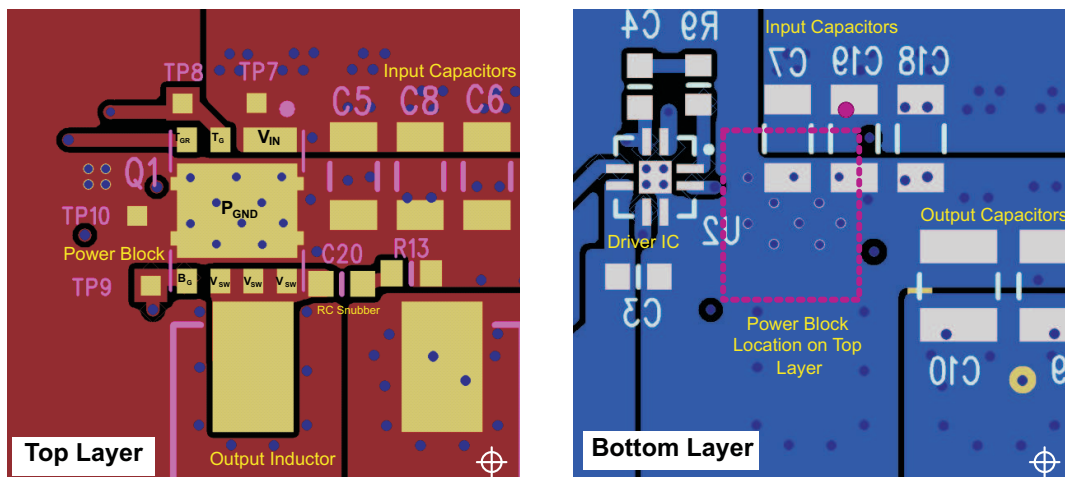

Figure 34. Recommended PCB Layout (Top Down View)
- The placement of the input capacitors relative to the power block's VIN and PGND pins should have the highest priority during the component placement routine. It is critical to minimize these node lengths. As such, ceramic input capacitors need to be placed as close as possible to the VIN and PGND pins (see Figure 34). The example in Figure 34 uses 6 × 10-μF ceramic capacitors (TDK part C3216X5R1C106KT or equivalent). Notice there are ceramic capacitors on both sides of the board with an appropriate amount of vias interconnecting both layers. In terms of priority of placement next to the power block, C5, C7, C19, and C8 should follow in order.
- The switching node of the output inductor should be placed relatively close to the power block VSW pins. Minimizing the node length between these two components will reduce the PCB conduction losses and actually reduce the switching noise level. In the event the switch node waveform exhibits ringing that reaches undesirable levels, the use of a boost resistor or RC snubber can be an effective way to easily reduce the peak ring level. The recommended boost resistor value will range between 1 Ω to 4.7 Ω depending on the output characteristics of driver IC used in conjunction with the power block. The RC snubber values can range from 0.5 Ω to 2.2 Ω for the R and 330 pF to 2200 pF for the C. Please refer to Snubber Circuits: Theory, Design and Application (SLUP100) for more details on how to properly tune the RC snubber values. The RC snubber should be placed as close as possible to the VSW node and PGND see Figure 34.(1)
- Use the smallest drill size allowed in your design. The example in Figure 34 uses vias with a 10-mil drill hole and a 16-mil capture pad.